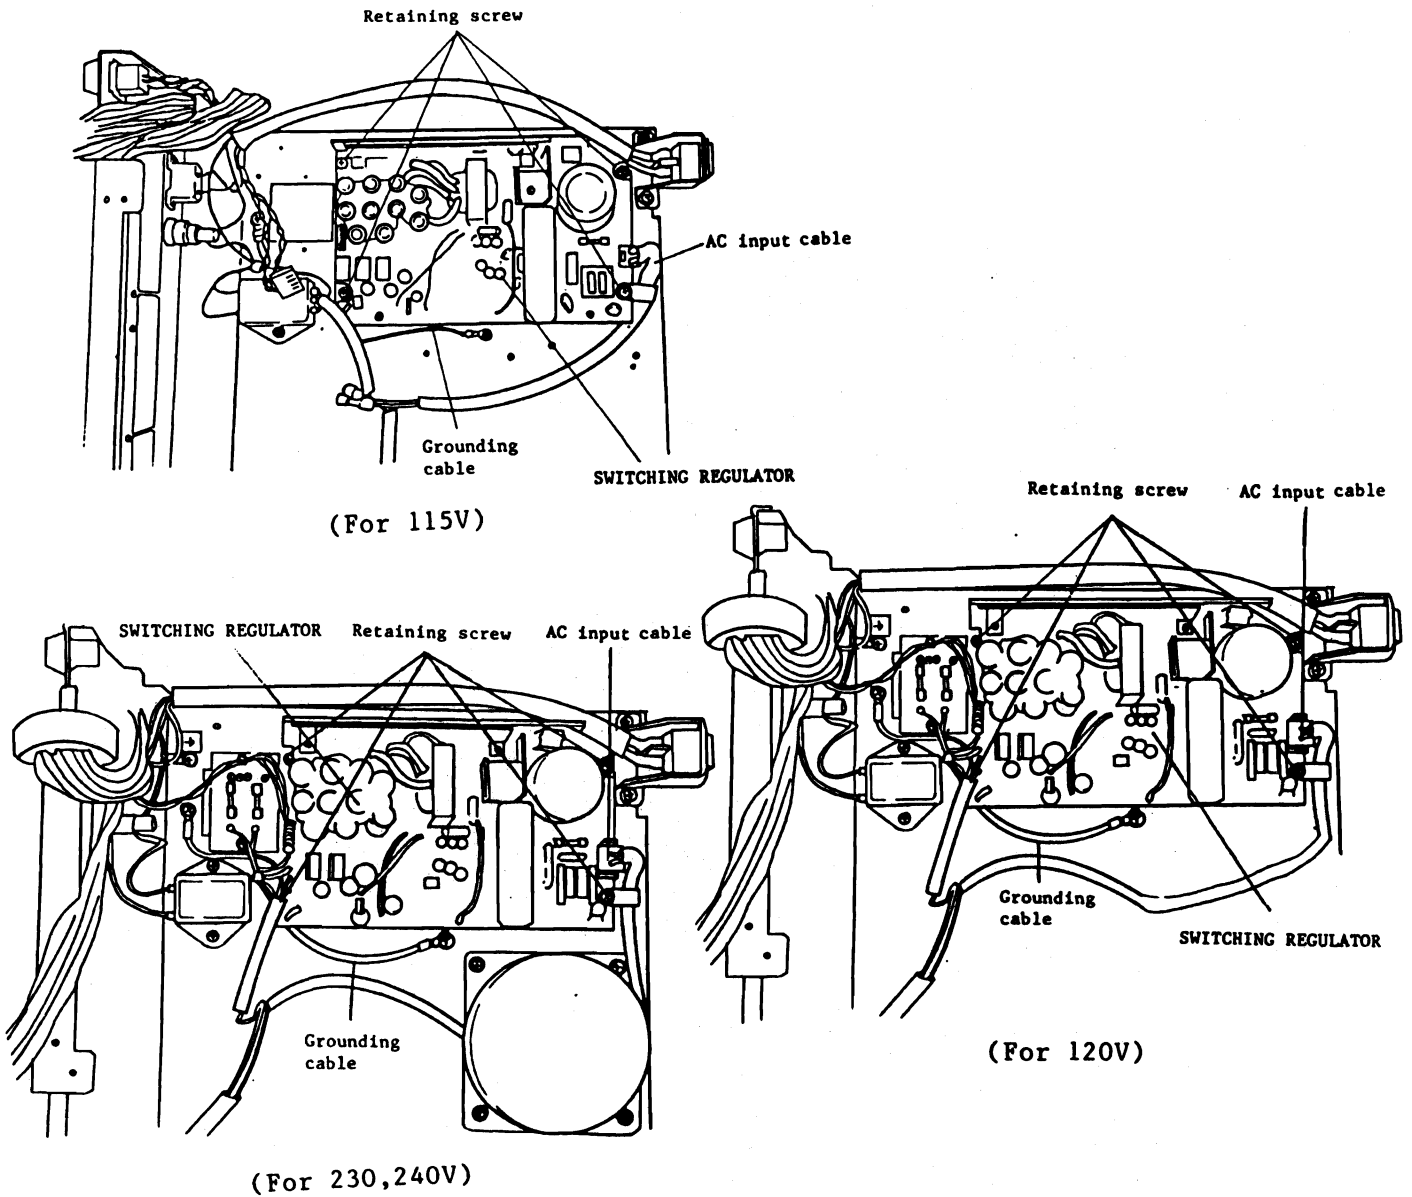

Fig. 5.2.5
- ⑥ Pull out power source unit from MAIN UNIT, and disconnect AC input cable and grounding cable (Fig. 5.2.5) from SWITCHING REGULATOR.
- ⑦ Remove four retaining screws of SWITCHING REGULATOR to remove it. (Fig. 5.2.5).